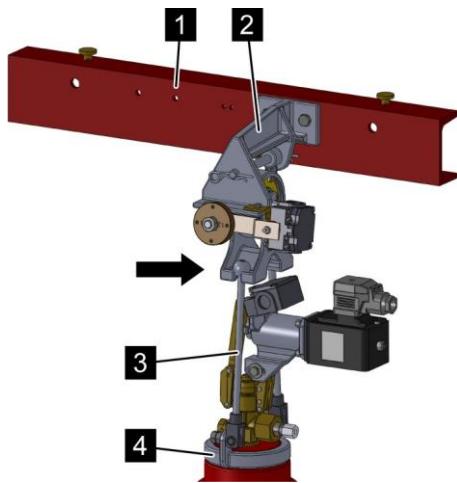

Fig. 69: Wall mounting
1. ➤ Screw the holder of the weighing device (Fig. 69/2) onto the U-profile (Fig. 69/1) with the M8 x 25 hex bolts.
2. ➤ Fasten the U-profile (Fig. 69/1) onto a bearing structural element.
11. ➔ Hook the pilot cylinder into the weighing device (Fig. 69/arrow) by means of the holding rods (Fig. 69/3).